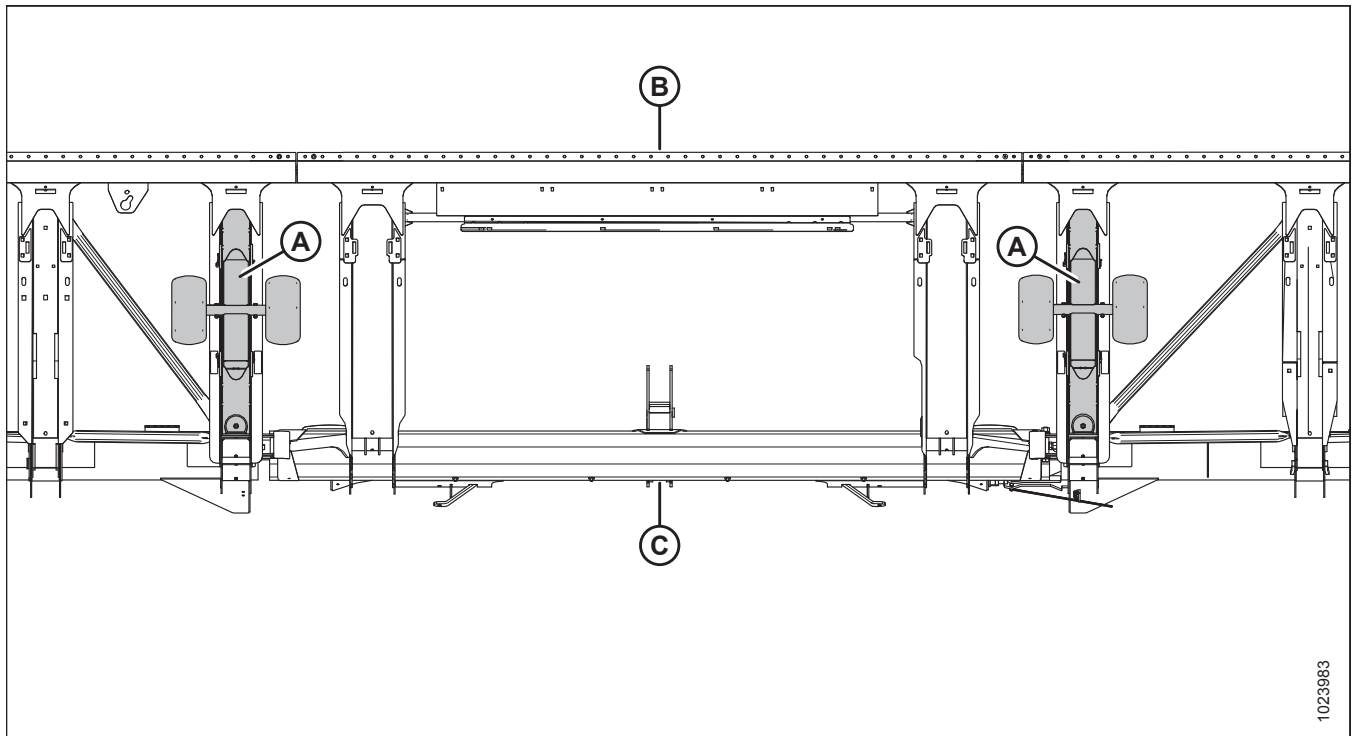

Figure 2.7: Inboard Wheel Assemblies Installed – View from Below
- Repeat Steps 1, page 11 to 4, page 12 for the other inboard wheel assembly on the right side of the header. Refer to Figure 2.7, page 13.